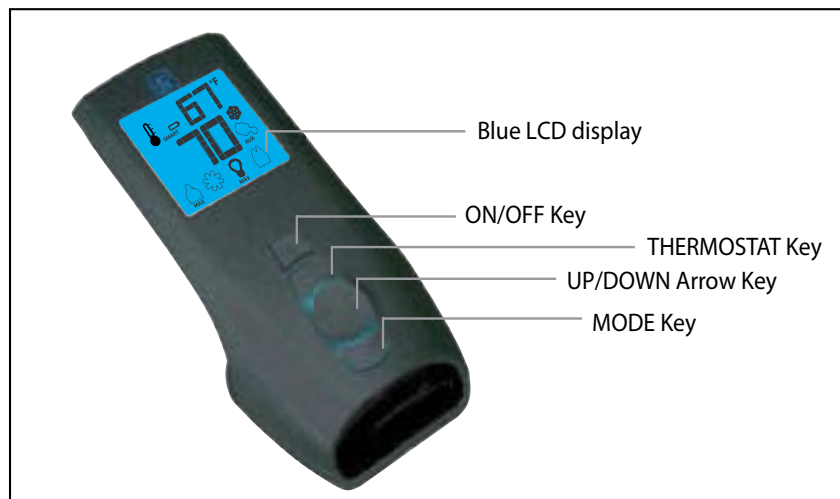
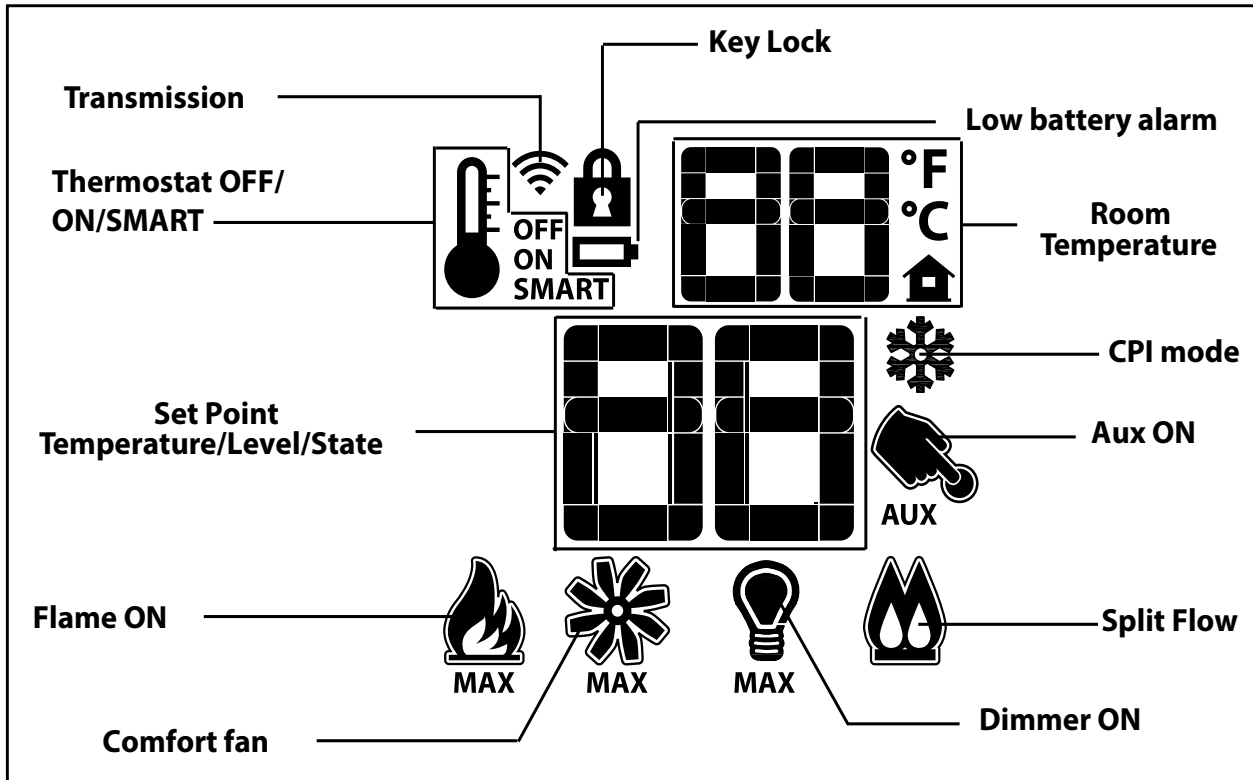
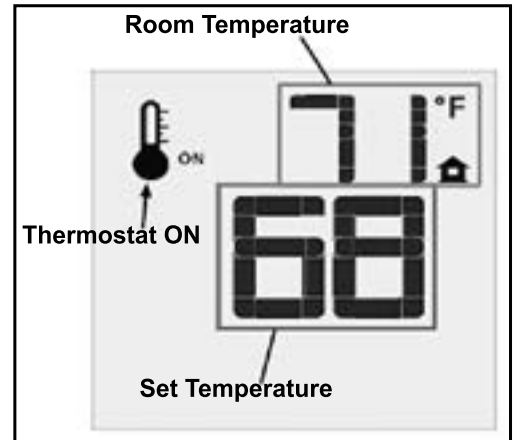

Figure 4: Proflame 2 Transmitter.
Figure 5: Proflame 2 Transmitter LCD Screen.
Figure 9: Remote Control Displays Set Temperature.
The Proflame 2 Transmitter is a black remote control with a blue backlit lcd display. It uses a streamline design with a simple button layout and informative lcd readout (Figure 5). The Transmitter is powered by three (3) AAA type batteries. A Mode Key is provided to Index between the features and a Thermostat Key is used to turn on/off or index through Thermostat functions (Figure 4 & Figure 5)
Press the ON/OFF Key on the Transmitter. The Transmitter LCD display will only show the room temperature and Icon (see Figure 9). A single "beep" from the IFC confirms reception of the command and both the pilot light (if the unit is not set to continuous pilot) and main burner will turn off.
The Remote Control can operate as a room thermostat. The thermostat can be set to a desired temperature to control the comfort level in a room. To activate this function, press the Thermostat Key (see Figure 4). The LCD display on the Transmitter will change to show that the room thermostat is "ON" and the set temperature is now displayed (see Figure 9). To adjust the set temperature, press the Up or Down Arrow Keys until the desired set temperature is displayed on the LCD screen of the Transmitter.
The Smart Thermostat function adjusts the flame height in accordance to the difference between the set point temperature and the actual room temperatures. As the room temperature gets closer to the set point the Smart Function will modulate the flame down. To activate this function, press the Thermostat Key (Figure 4) until the word "SMART" appears to the right of the temperature bulb graphic (Figure 10). To adjust the set temperature, press the Up or Down Arrow Keys until the desired set temperature is displayed on the LCD screen of the Transmitter.